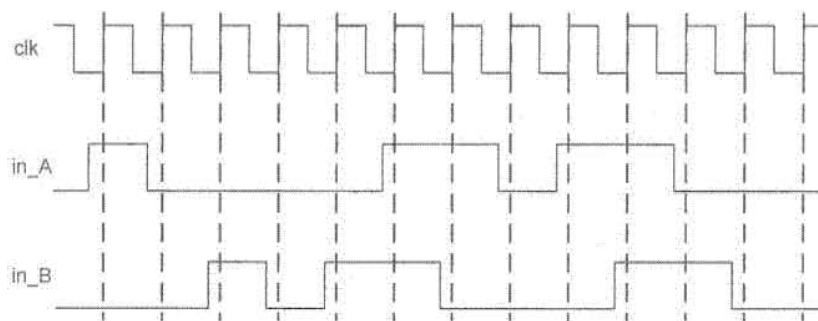

Figure 1.2
- c) Assuming that the FSM is initially at state S0, draw a timing diagram showing the output FSM_out and the state variable S4:S0 for inputs in_A and in_B shown in Figure 1.2. You may use the timing diagram template provided at the end of this paper.